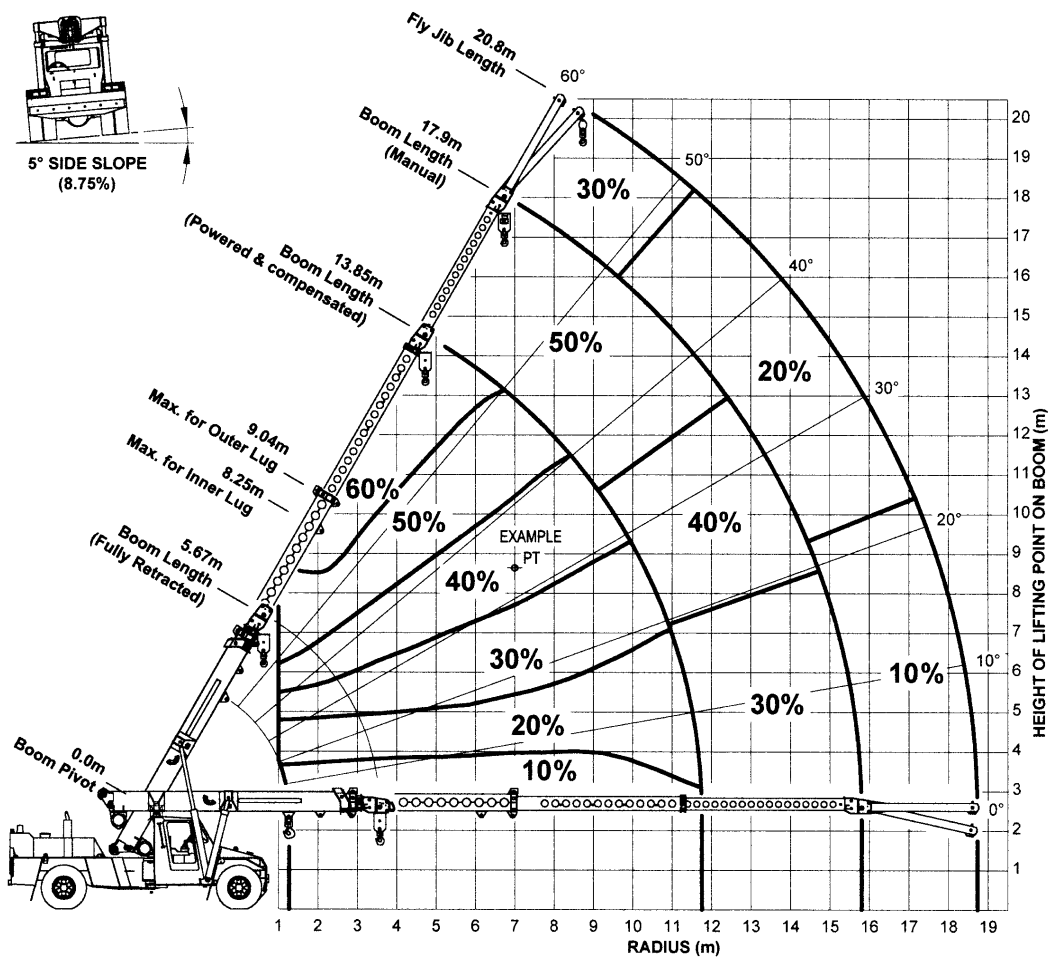

Figure 1: Percentage Deration Chart for AT-20 at 5° Side Slope
- **REDUCE** the Rated Capacity of the crane by the percentage value for the crane as shown in figure 1 for operating on side slopes up to 5° (8.75% gradient) - **REMEMBER** the crane's load indicator will **NOT** automatically derate the Rated Capacity.
Percentage Deration: 40 % (From Figure 1: Percentage Deration Chart)